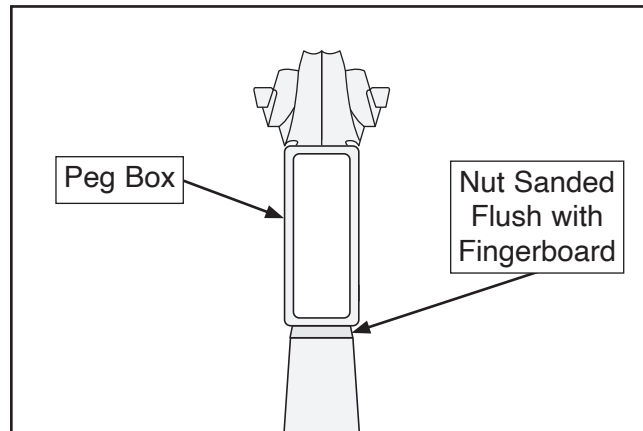

Figure 13. Adjusting nut.
2. If nut width exceeds neck and fingerboard, file or sand edges to match profile of neck and fingerboard (see **Figure 13**).